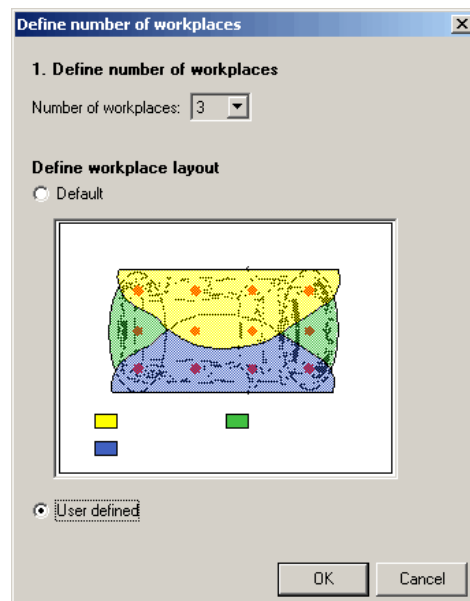

Figure 96: Example of a User-Defined Balancing Process
- 1) Specify the number of workplaces in the **Number of workplaces** dialog. There are three workplaces in the example. *Please refer to the Figure 96.*